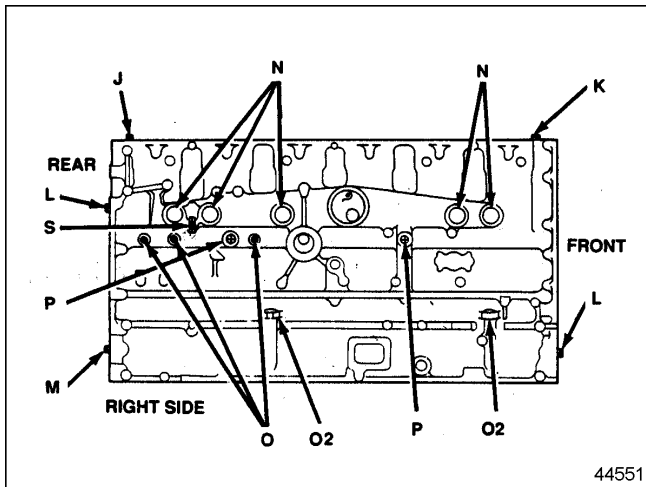

Figure 4 Location of Cup and Pipe Plugs on Right Side
See Figure 4 for cup and pipe plug locations.
- O2. 8922327 1/4"-18 Pipe Plug (1 place). Opposite oil level dipstick location. See Figure 4.